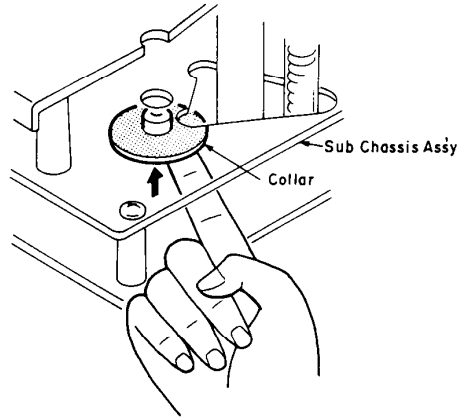

Fig. 3
- (4) Mount the Collar and stick it firmly. See Fig. 3.